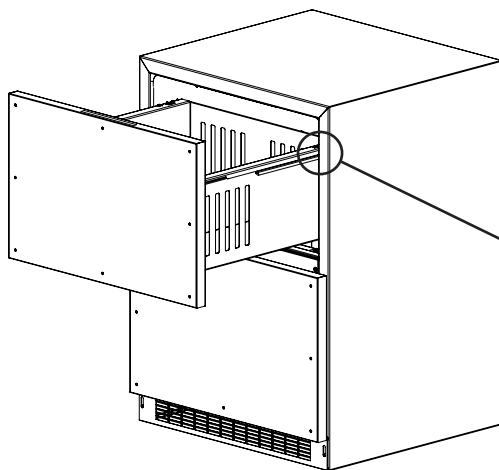
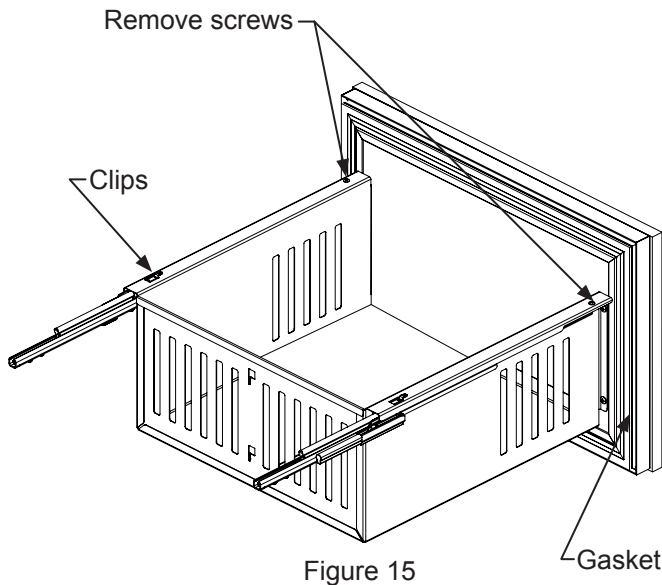
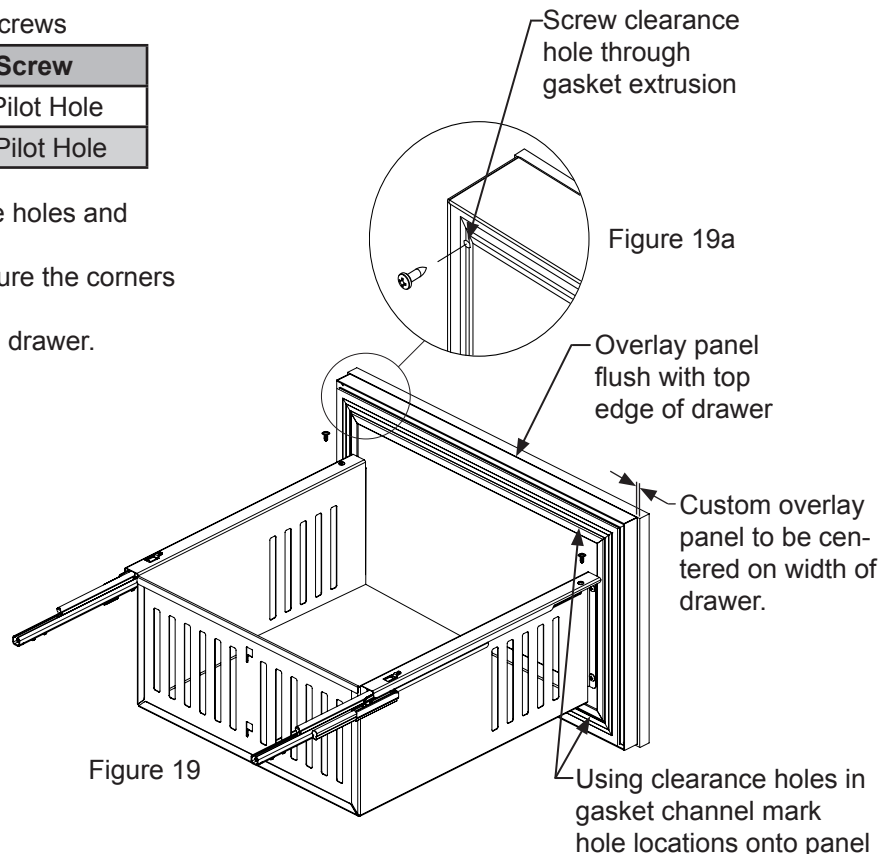

Figure 14
Figure 15
Figure 19
1. Begin by pulling out the top drawer. (See Figure 14). Remove screws securing drawer to slides (See Figure 15). Pull drawer forward, lift up and out to clear clips in rear of drawer. Move drawer forward about 1" (2.5 cm) and set down on slides. At the right rear corner of the drawer disconnect the display wire harness (See Figure 14a). Remove the drawer from the unit by lifting up off of the slides. Repeat for bottom drawer but disregard the harness instructions as there is no wiring to the bottom drawer.
2. Remove the drawer divider from the drawer and remove the gasket from the drawer front. (See Figure 15). Do this by pulling the gasket out of the channel that holds it to the drawer front. This will expose the clearance holes for mounting the overlay panel. (See Figure 19).
1. Set the overlay panel on drawer front face and align edges. (See Figure 19). The custom overlay panel should be flush with the top of the drawer and centered on the width of the drawer. Clamp panel in position and mark pilot hole locations. Pick the required pilot hole size from "Table A" below and drill the pilot holes ensuring not to drill all the way through the overlay panel.